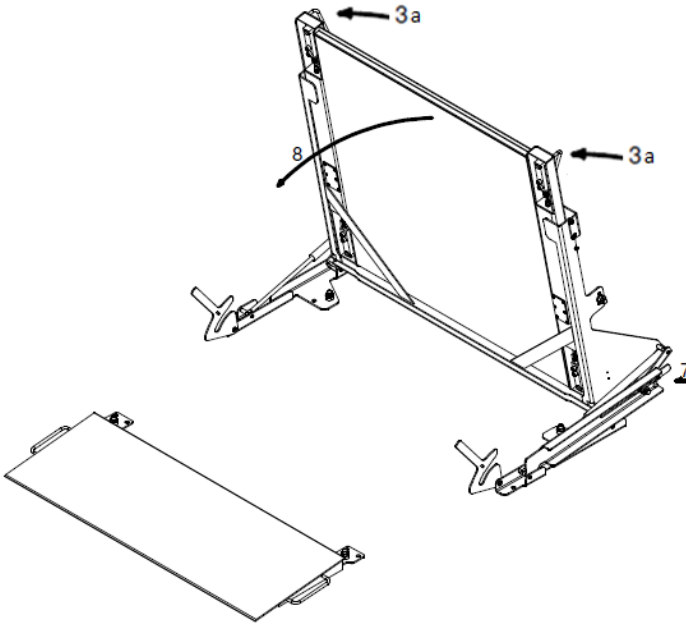

Fig.23. Handles and the direction of platform lowering
2. Lower the platform using handles (3a) in accordance with direction 8 (Figure 23).